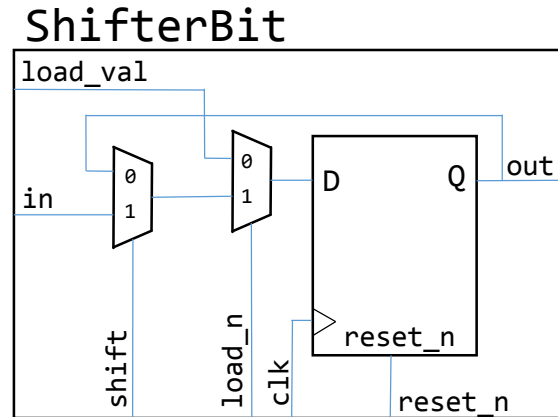
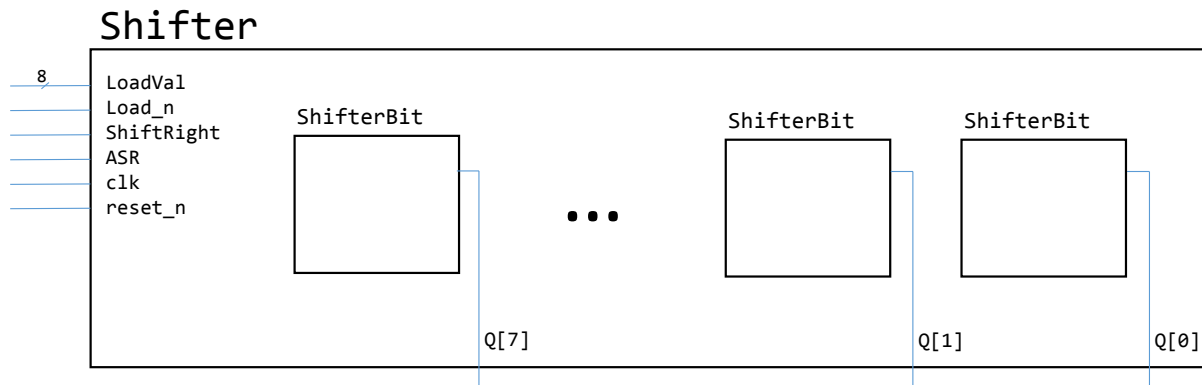

Figure 5: Sub-circuit for Part III.
Figure 6: Shifter circuit for Part III. All required internal connections are **not** shown.
In this part of the lab, you will create an 8-bit right-shift register that has an optional arithmetic shift. A shift register is a collection of flip-flops that move values sequentially between each other on each clock edge. Figure 5 shows one bit of our right-shift register. It contains a positive edge-triggered flip-flop and several multiplexers. To accommodate 8-bits, you will use eight instances of the circuit in Figure 5 to design your right-shift register with optional arithmetic shift and parallel load shown in Figure 6.
In the Shifter module, create an 8-bit-wide register input *LoadVal*, whose individual wires are tied to each *load_val* input of each ShifterBit instance. Likewise, create an 8-bit-wide output *Q*, whose individual wires stem from each *out* port of each ShifterBit instance. The *shift* input of all eight instances of the circuit in Figure 5 should be tied to the single input *ShiftRight*. The *load_n* input of all eight instances should be tied to the input *Load_n*. This allows an 8-bit value to be loaded into all eight flip-flops on the same clock cycle. The *clk* input of all eight instances should be tied to the single input *clk*. Likewise for *reset_n*. The *in* input of all eight instances, should be connected to the *out* port of the instance to its left, because when you want to shift the bits right, you have to load the bit to the left - except for the leftmost ShifterBit instance. In this special case, you should design a circuit that will perform sign-extension when the signal *ASR* is high (arithmetic right shift) and will load zeros if *ASR* is low (logic right shift). This special circuit is not shown in the figures below.
1. What is the behaviour of the 8-bit shift register shown in Figure 6 when $Load_n = 1$ and $ShiftRight = 0$? Briefly explain. **(PRELAB)**
2. Draw a schematic for the 8-bit shift register shown in Figure 6 including the necessary connections. Your schematic should contain eight instances of the sub-circuit in Figure 5 and all the wiring required to implement the desired behaviour. Label the signals on your schematic with the same names you will use in your Verilog code. **(PRELAB)**
3. Starting with the code in Figure 2 for a flip flop, use this D flip flop with instances of the *mux2to1* module from Lab 1 to build the sub-circuit shown in Figure 5. To get you started, Figure 7 is a sample of hierarchical code showing the D flip flop with one of the 2-to-1 multiplexers connected to it. **(PRELAB)**
4. Create a new Quartus II project and write a Verilog module for the shift register that instantiates eight instances of your Verilog module for Figure 5. This Verilog module should match with the schematic in your lab book. Use SW_{7-0} as the inputs $LoadVal_{7-0}$ and SW_9 as a synchronous active low reset. Use KEY_1 as the $Load_n$ input, KEY_2 as the $ShiftRight$ input and KEY_3 as the ASR input. Use KEY_0 as the clock, but **read the important note below about switch bouncing**. The outputs Q_{7-0} should be displayed on the LEDs ($LEDR_{7-0}$). **(PRELAB)**